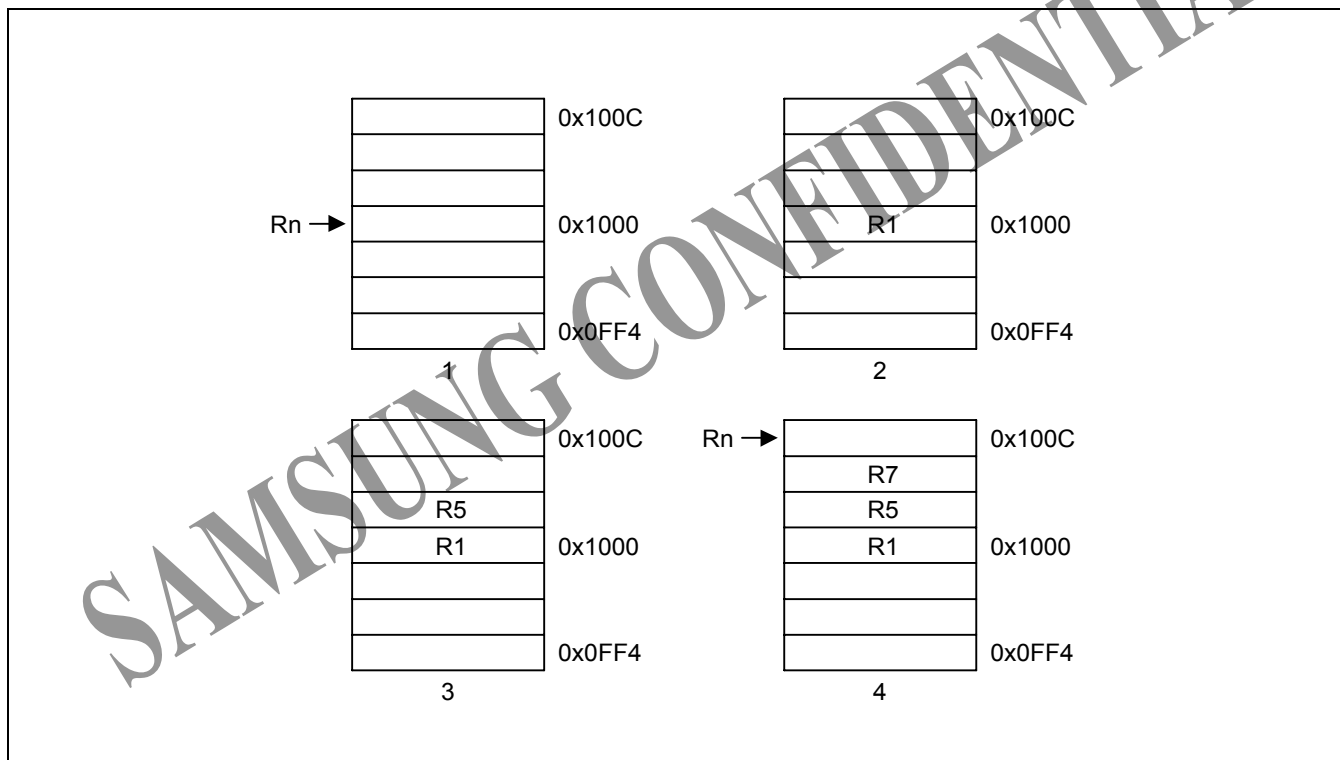

Figure 3-23. Post-Increment Addressing
The transfer addresses are determined by the contents of the base register (Rn), the pre/post bit (P) and the up/down bit (U). The registers are transferred in the order lowest to highest, so R15 (if in the list) will always be transferred last. The lowest register also gets transferred to/from the lowest memory address. By way of illustration, consider the transfer of R1, R5, and R7 in the case where Rn=0x1000 and write back of the modified base is required (W=1). Figure 3-23 ~ 3-26 shows the sequence of register transfers, the addresses used, and the value of Rn after the instruction has completed.